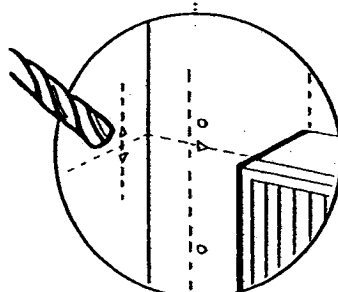

Fig. 39
13. Cut a hole approximately 107mm (4 1/8 in) diameter in the masonry for the 100mm (4 in) diameter flue duct (Fig. 39). (Use of a core drill is recommended. When using a core drill, it is important to keep the drill level and square, particularly with the wall onto which the boiler is to be fitted).